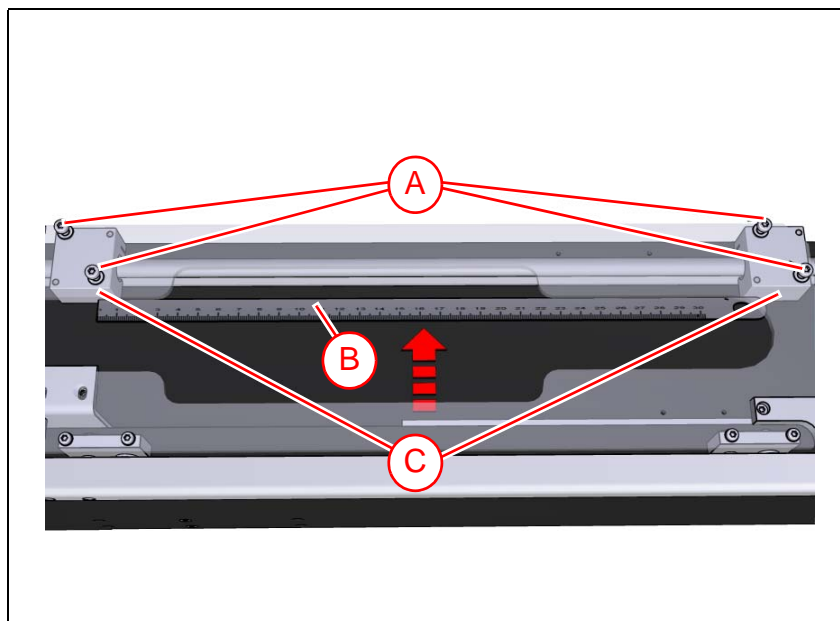

Figure 13-32. Alignment of the ball bushings.
3. Loosen the four screws ('A' in Figure 13-32) holding the two ball bushings ('C').